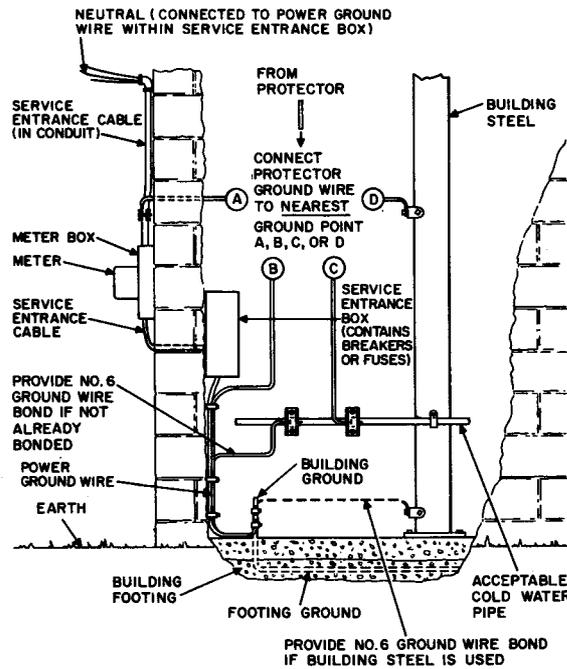

Fig. 36—Acceptable Water System or Building Ground (Power Service Grounded to Footing Ground)
**6.05** Station protectors installed at locations where the power is grounded to a concrete encased electrode or to grounded building steel should be grounded as shown in Fig. 36 and 37.